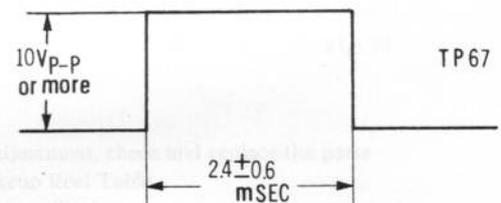

Fig. 47
4. Make sure that the waveform of TP67 becomes as shown in Fig. 47.